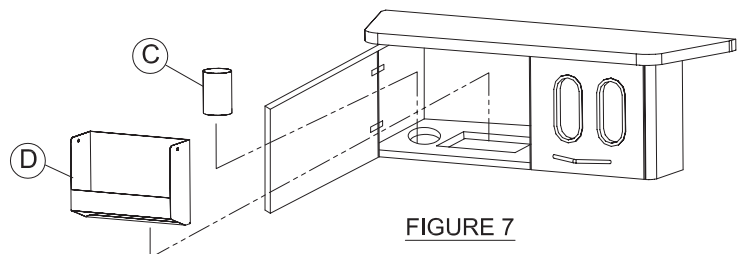

FIGURE 7
Open the left door and insert the cup dispenser (C) through the hole and the towel dispenser (D) through the rectangular cutout. See Figure 7